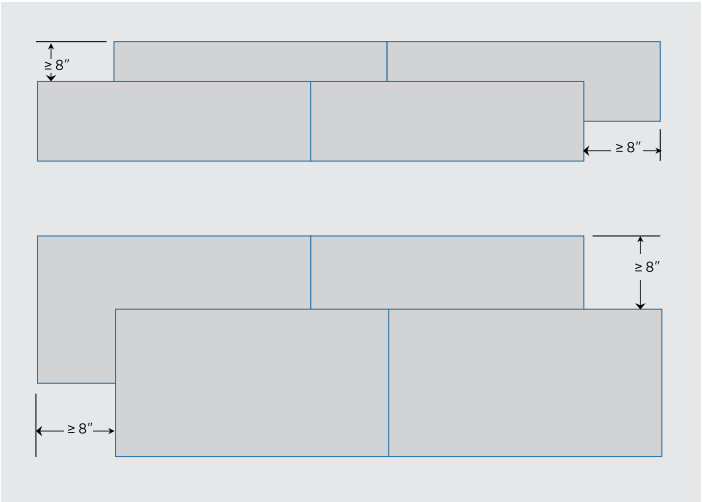

Figure 3
- Where multiple insulation layers are required, these shall be either shi lap or square edge. The board layers' ends and edges shall be staggered relative to the layer(s) underneath, ideally 2 feet but at least 8" (see Figure 3). In multilayer applications the bottom layer must be the thickest or, at minimum, equal to the top layer. The product shall be closely butted to parapet walls and the perimeter of large penetrations.